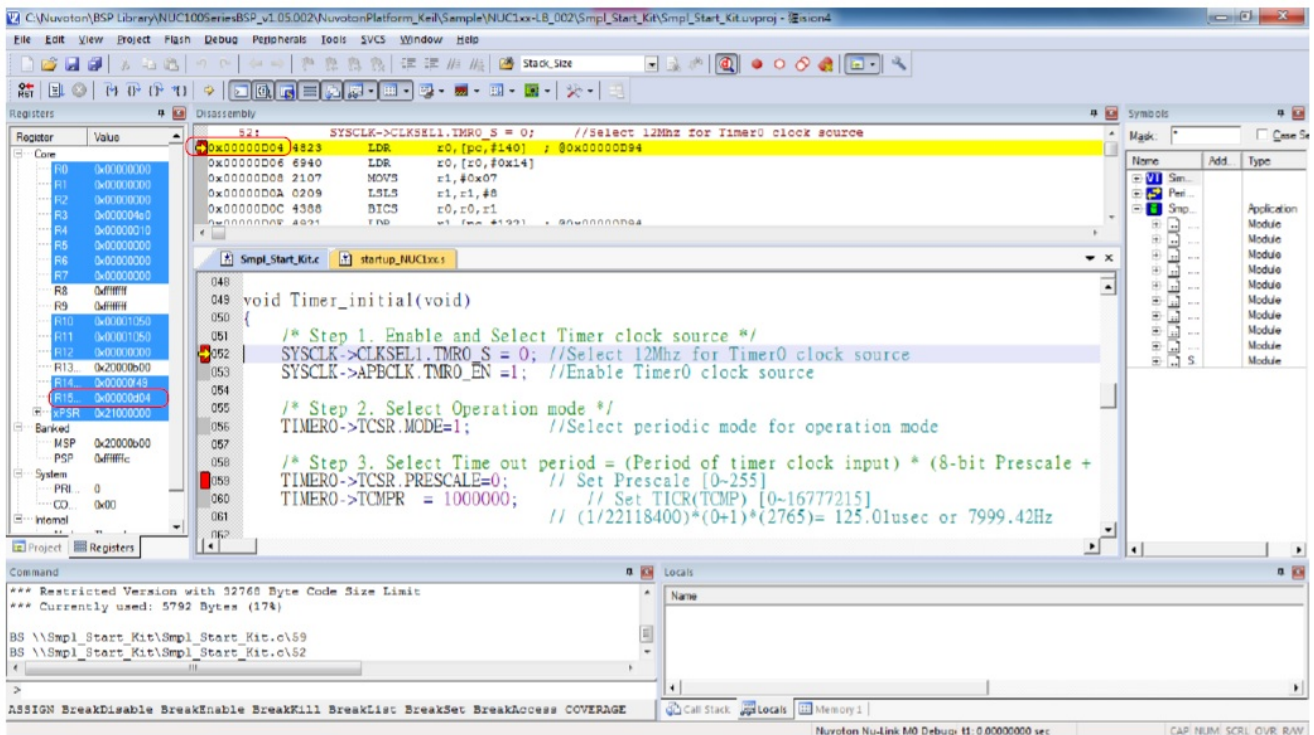

Figure 3-1 Setting Breakpoints in Keil MDK Debug Mode
In Debug mode, the user can add breakpoints in the code for debugging. During the real-time simulation of the Nu-Link Adapter, the chip simulation will be stopped at a specific breakpoint. Figure 3-1 shows the breakpoint settings in Keil MDK Debug mode. The red labels on lines 052 and 059 indicate the breakpoints inserted; the yellow arrow refers to the code to be executed next and shows the register value of Program Counter (PC) (i.e. "R15(PC)=0x00000D04" in the Registers pane in Figure 3-1).